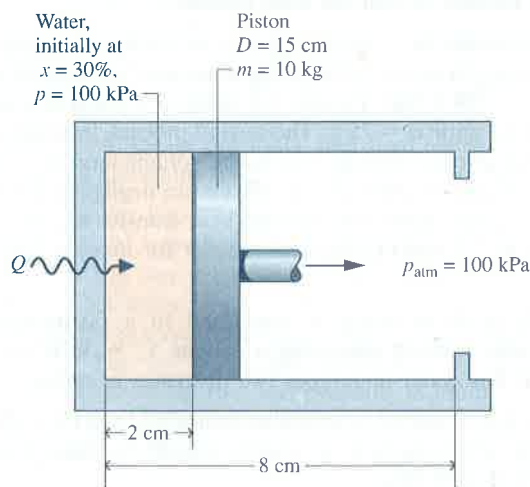

Fig. P3.77
- 3.77** A two-phase, liquid–vapor mixture of H_2O , initially at $x = 30\%$ and a pressure of 100 kPa, is contained in a piston–cylinder assembly, as shown in Fig P3.77. The mass of the piston is 10 kg, and its diameter is 15 cm. The pressure of the surroundings is 100 kPa. As the water is heated, the pressure inside the cylinder remains constant until the piston hits the stops. Heat transfer to the water continues at constant volume until the pressure is 150 kPa. Friction between the piston and the cylinder wall and kinetic and potential energy effects are negligible. For the overall process of the water, determine the work and heat transfer, each in kJ.